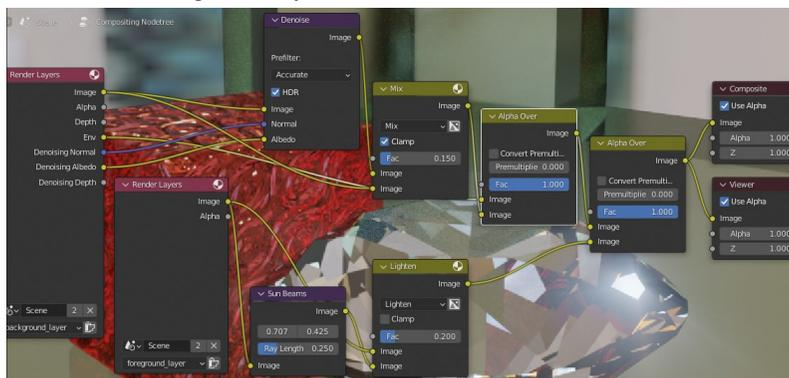

Figure 13-9 The compositor node layout.
11. In order to denoise the background image select **Add ▶ Filter ▶ Denoise** and drop the node onto the output from the background_layer. The quality will be improved by connecting the normal and albedo inputs as well. To blend the denoised image with the noisy one use **Add ▶ Color ▶ Mix** and use the first input from the denoiser node and the second input from the background_layer directly. Adjust the factor to give the best result, and try different mixing mode such as darken or lighten, to reduce blurring without showing too much noise. The environment texture needs another alpha over node taking its first input from the Env output of the background_layer and the second input from the color mix node. The output of this node goes into the first input of the original alpha over node. You node layout should look like Figure 13-9 below, with the exception of the sun beams and lighten nodes applied to the foreground layer.